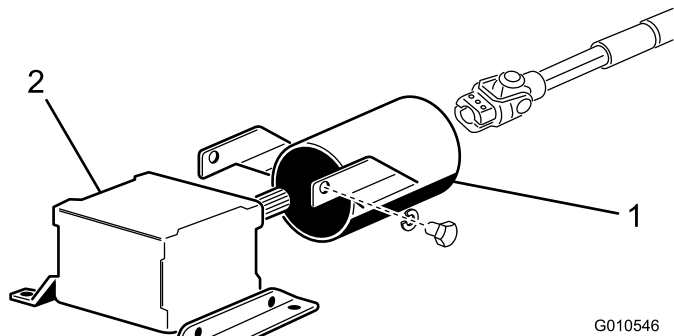

Figure 8
- Remove the 2 bolts and lock washers securing the PTO guard mounting brackets to the gear box (Figure 8). Retain the fasteners for future installation.
- Slide the PTO shaft guard onto the PTO shaft, positioning the guard as shown in Figure 8.